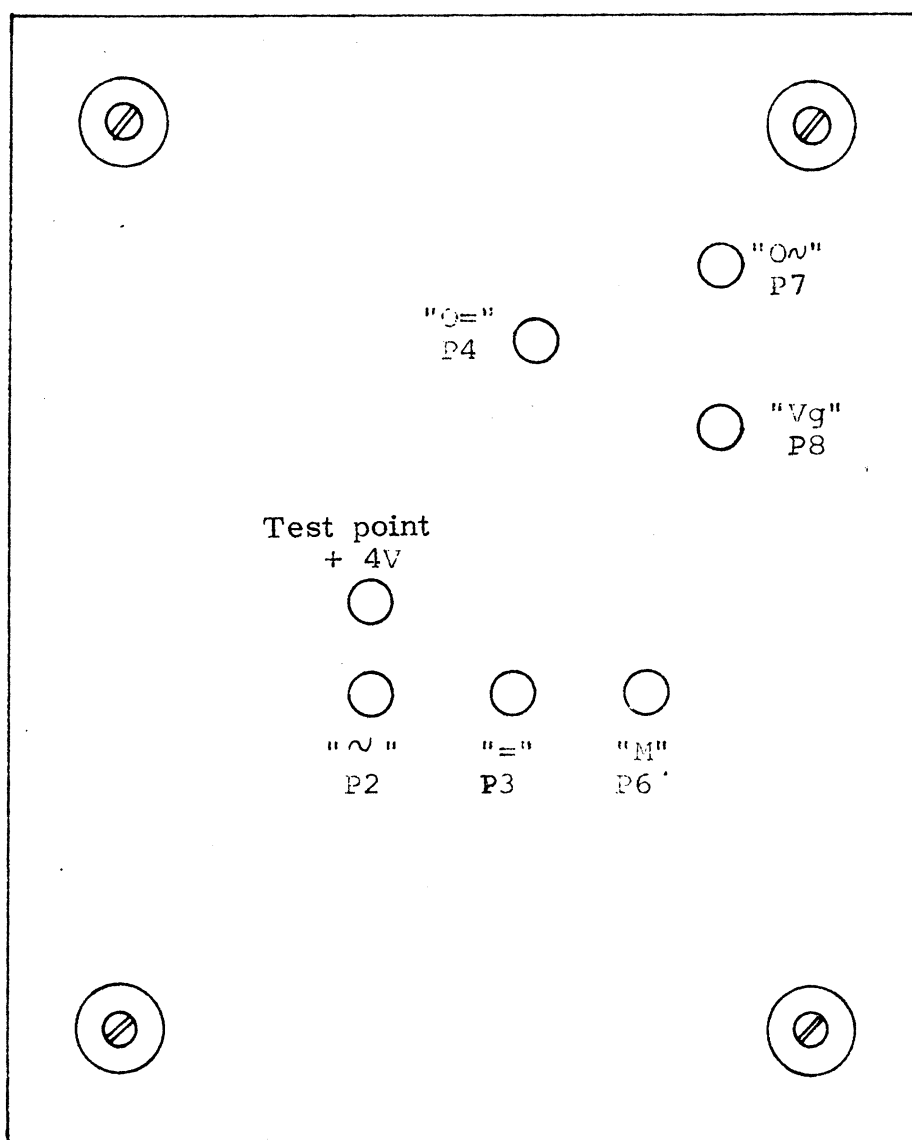

Fig. 7. Bottom view showing locations of adjustment potentiometers.
- (1) Check the mechanical zero. Adjust ⑦ if necessary.
- (2) Apply AC mains power to the instrument and set range switch to +100V range.
- (3) Check voltage across charge capacitor C7 (approx. 320 V, ripple approx. 8 V_{pp}).
- (4) Adjust, with potentiometer "Vg" (P8), the operating point of the differential amplifier. Check the voltage with a vacuum-tube voltmeter connected between the "+4 V" test point (see Fig. 7) and chassis (black terminal).
- (5) Check if the electric zero can be varied approx. $\pm 8\%$ of full scale with the potentiometer marked "0" (P5). If the adjustment range is not symmetrical around zero, set P5 at mid-range and adjust the potentiometer marked "0=" (P4) for zero meter reading.
- (6) Apply an accurate DC voltage of +100V to the input terminals. A Hewlett Packard 6920B Meter Calibrator may be used as voltage source. Adjust full-scale deflection with the potentiometer marked "=" (P3).
- (7) Remove the 100V voltage source and set the function switch to "M". Adjust mid-scale deflection with the potentiometer marked "M" (P6).
- (8) Set range switch to "1 V". Set function switch to " \sim " and adjust the electric zero with the potentiometer marked "0 \sim " (P7).
- (9) Set range switch to "100V" and apply an accurate sine-wave voltage ($f \gg 50$ Hz) of 100 V_{RMS} to the input terminals.